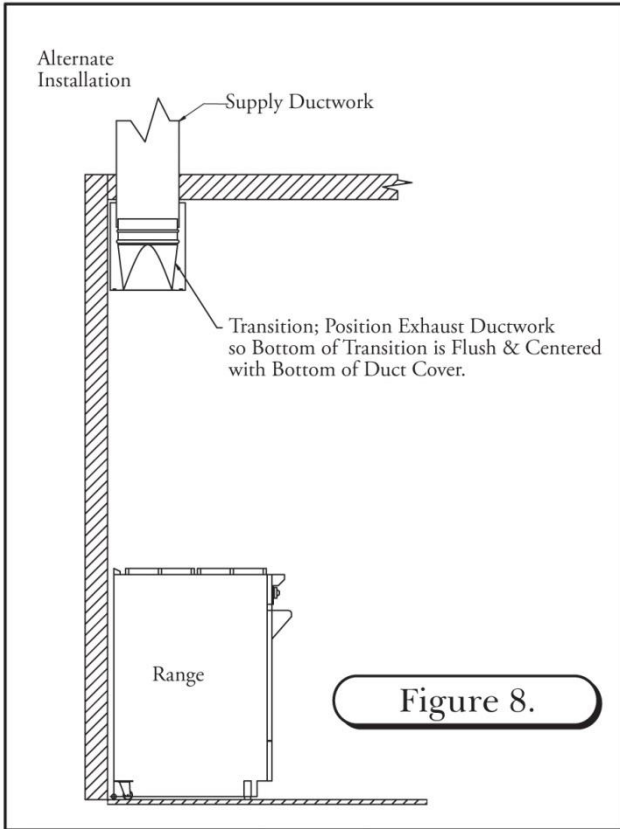

Figure 8.
2. Install transition to ductwork, ensuring transition bottom is centered and flush with bottom of duct cover (in most cases you will not be able to mechanically fasten transition to ductwork. If mechanical fasteners are used, apply duct tape to hold transition in place until hood is mounted. This may be followed by a small amount of silicone at the connection of the transition of ductwork. (See Figure 8)